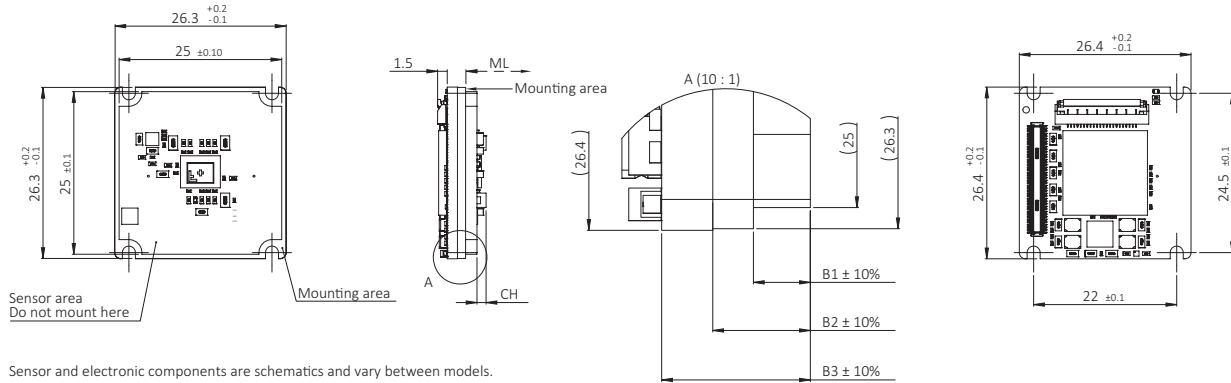

Figure 46: Bare Board dimensions
Dimensions that are common between different models are shown in Figure 46, model specific dimensions are listed in Table 60. **Mechanical length (ML)** defines the mechanical distance from the mounting area to the lens mount front flange, without optical filter. **Components height (CH)** relates to the electronic components with maximum height, sometimes the sensor.